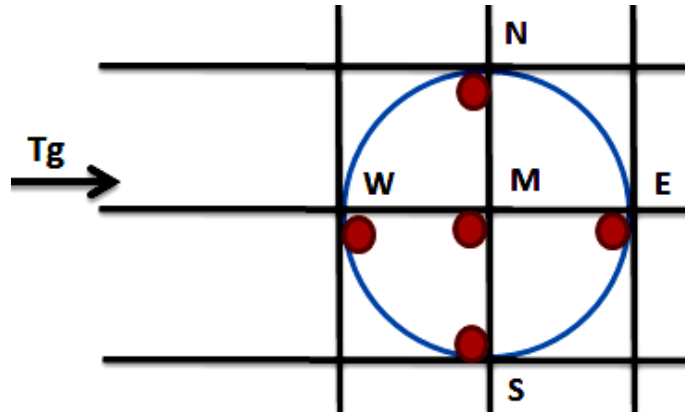
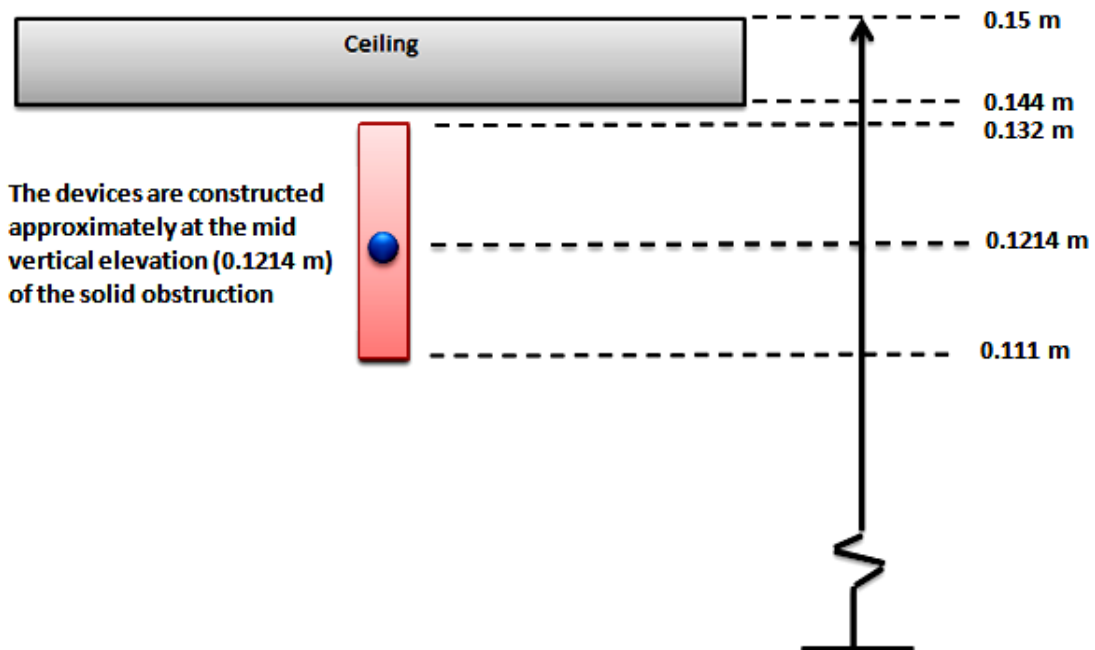

Figure 5.7: Plan view of the devices location
Figure 5.9: Elevation of the devices location
In Figure 5.7, the vertical and horizontal solid black lines represent the FDS gridlines. The recommended device locations are placed adjacent to the mid-point (M) of glass bulb and four corner of the surrounding as reference points. Although two of them (i.e. W and S) are unnecessary as they (including M) are within the same cell which computes a single output from the single grid cell. The device (M) is assigned to record the rise in temperature.
Figure 5.9 shows the vertical elevation of the device locations for the simulation. There are five devices (as mentioned in Figure 5.7) located approximately at the mid vertical elevation of the 21 mm length of the solid obstruction.